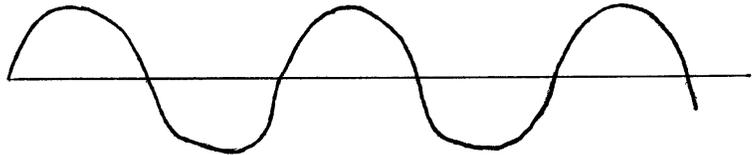

Figure 4.4.
3. Light travels as a wave, much like sound. If you were to look at a light wave as it travels along, you would see a regular rise and fall in intensity and a constant distance between peaks and troughs, commonly known as a sine wave. (See Figure 4.4).